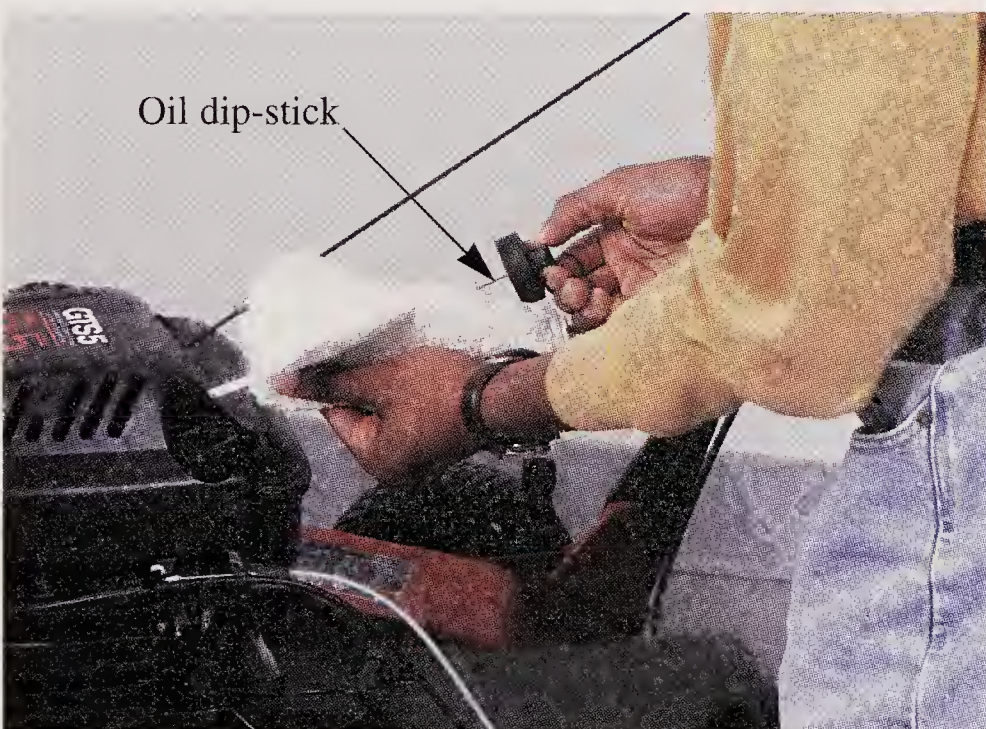

Figure 18-21. This engine has a dip-stick for checking oil level. Oil is added through dip-stick opening.
2. Check oil level and condition of oil. Add or change if necessary. See **Figure 18-21**.
2. Pour oil into oil-fill neck that is provided and labeled. Fill to the level indicated by engine manufacturer. Some engines have dip-sticks. See **Figure 18-21**. Fill to *Full* line.